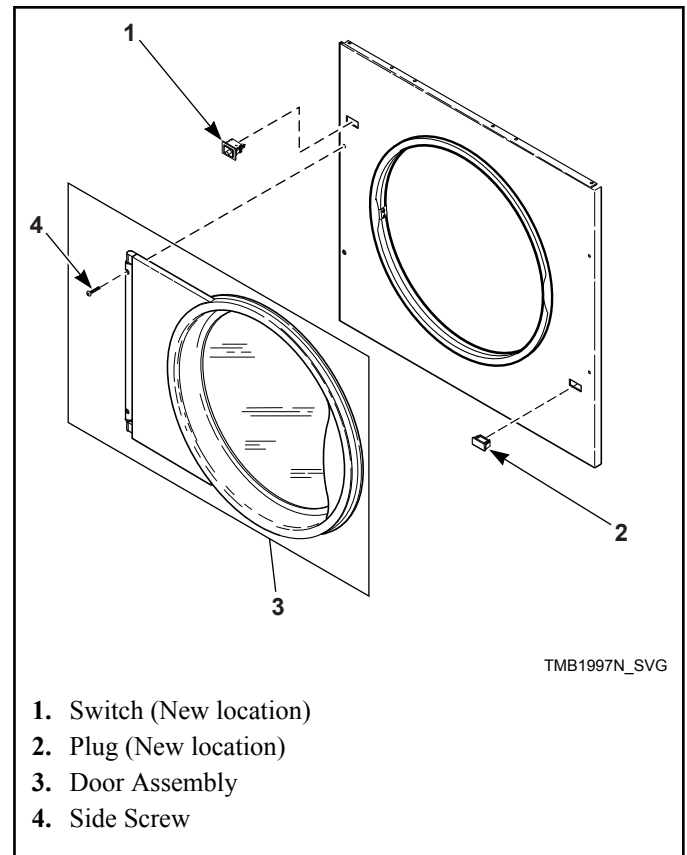

Figure 13
9. Place front panel on machine, loosely attach four bottom screws. Connect door switch harness to switch in new location. Install door assembly and four front panel side screws loosely. Refer to Figure 13.